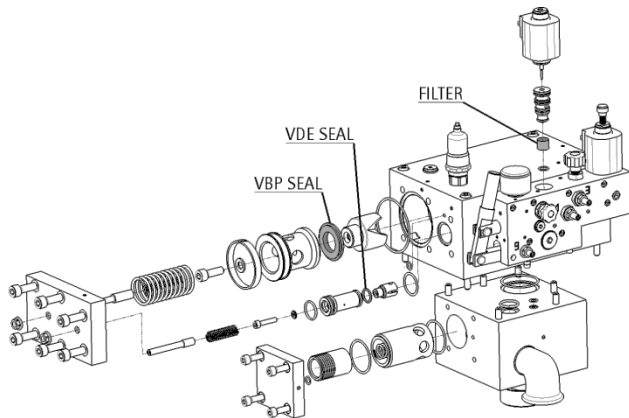

Figure 13
- Replace the VBP seal as shown in Figure 13:
- Replace the VDE seal as shown in Figure 13:
- With a general overhaul or when operation faults occur, clean all filters located on the electro-valves and indicated in Figure 13 on page 10.